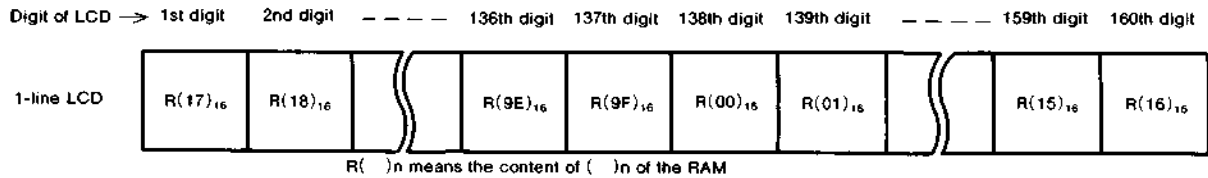

Fig.3 Example of display address
When the content of the display start address register is (17)₁₆, the liquid crystal display will be as Fig. 3.